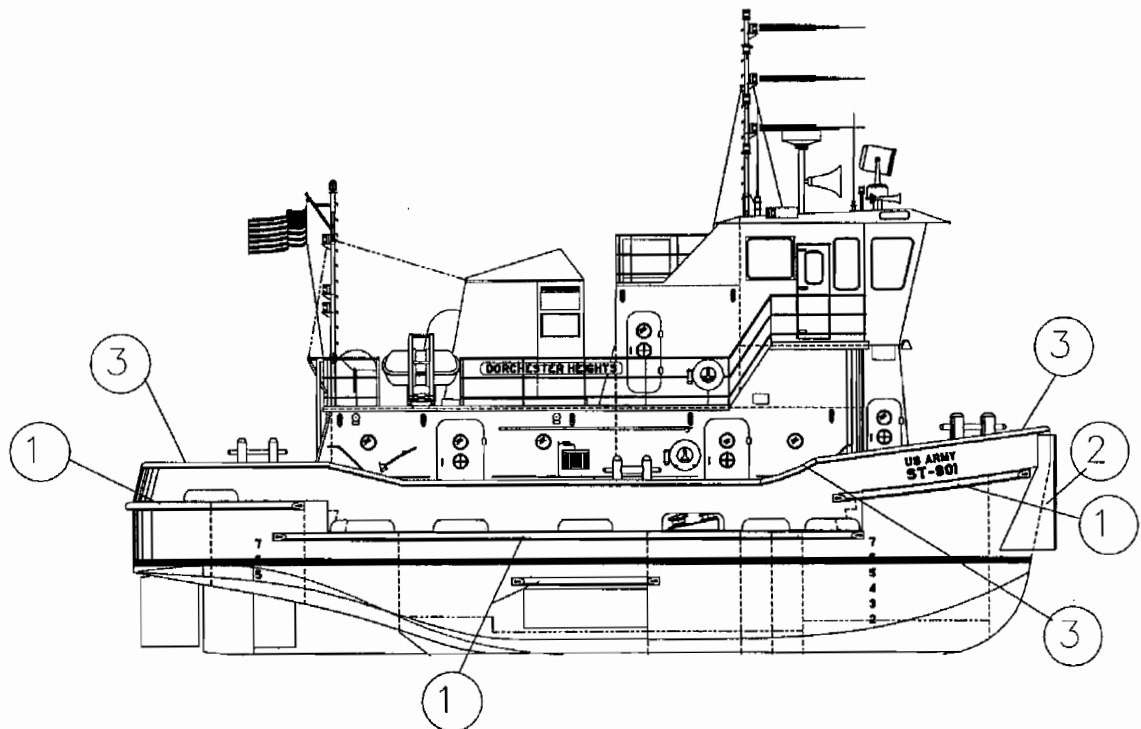

Figure 1-23. Fendering
- (3) Fendering. Refer to Figure 1-23 for a depiction of the ST's fendering system. The fendering system includes rectangular rubber fenders (Hule "D" series) (Item 1) surrounding the ship's perimeter and a Johnson DB-1510 standard push knee (Item 2). The caprail (Item 3), located on top of the gunwale, is constructed of 4-inch (0.1016 Meters) pipe.